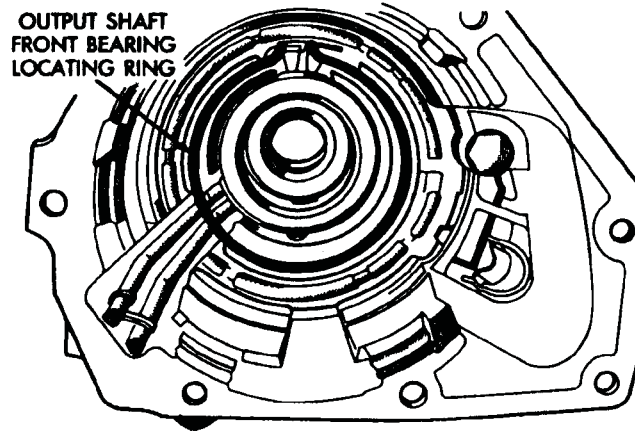

Fig. 74 Front Bearing Locating Ring Installation
(18) Install output shaft front bearing locating ring in case (Fig. 74).